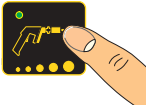

Figure 6.3 Selecting Single -Sided weld mode
1. Make sure the welder is turned on. Push the Single-Sided weld mode button (fig 6.3). The green light will light up when engaged.